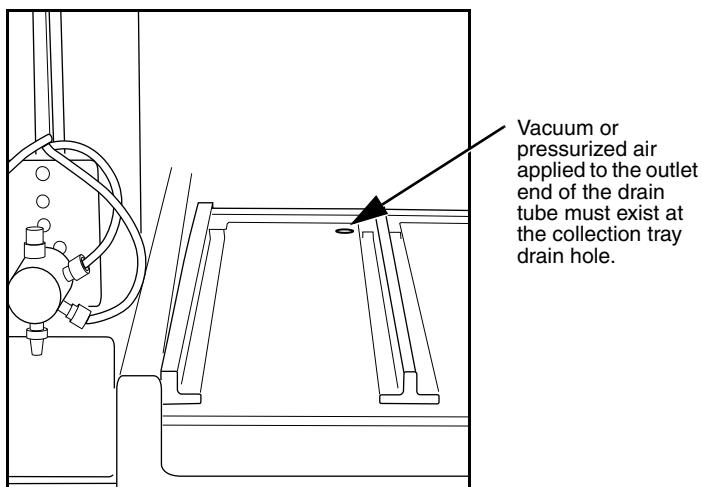

Figure 2-4 Fraction Collector Drain
1. Test the Fraction Collector drain by connecting a vacuum or air supply source to the outlet end of the drain tube. Then, verify the presence of such vacuum or air supply source on the drain (Figure 2-4).